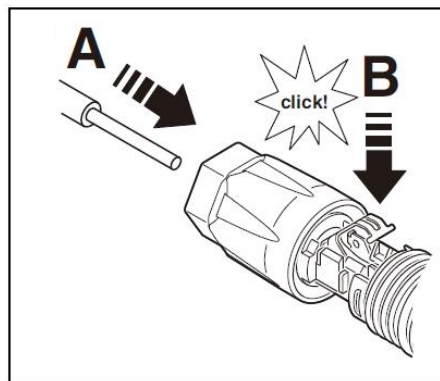

Figure 5-13
4. Carefully insert the stripped wire with twisted litz wires all the way in (Figure 5-13, A). The litz wire ends have to be visible in the spring.
5. Close the spring. Make sure that the spring is snapped in (Figure 5-13, B).